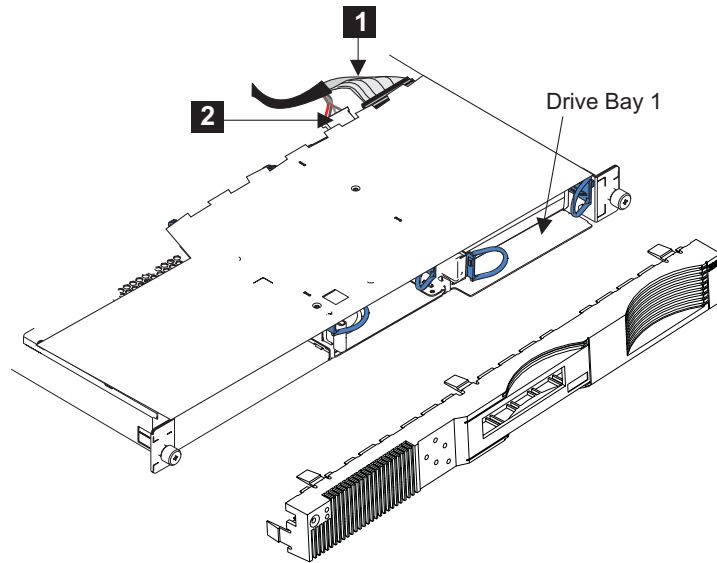

Figure 167. Replacing the SAN Volume Controller 2145-4F2 disk drive
4. Connect the SCSI signal connector **1** and the power connector **2**, which are shown in Figure 167 on page 497, to the back of the disk drive.